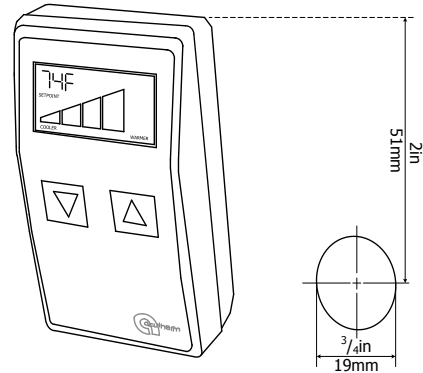

Fig. 2 – Drill hole
1. Drill a $\frac{3}{4}$ in/19mm diameter hole in the wall 2in/51mm below the center of where the top of the Adjuster is to be located (Fig. 2).